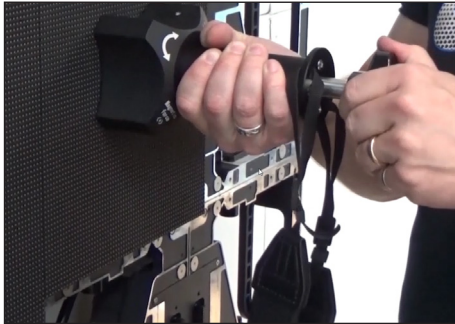

Figure 23: Remove Module
2. Turn the knob on the module removal tool clockwise to disengage the tool. Refer to **Figure 23**.
4. Turn the knob on the tool counterclockwise to engage the magnets. Refer to **Figure 23**.